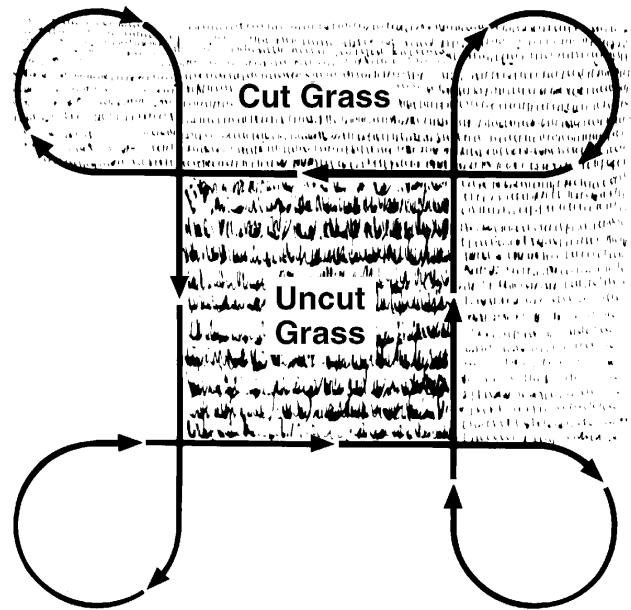

Figure 4-5
4. Follow the mowing pattern shown in Figure 4-5.